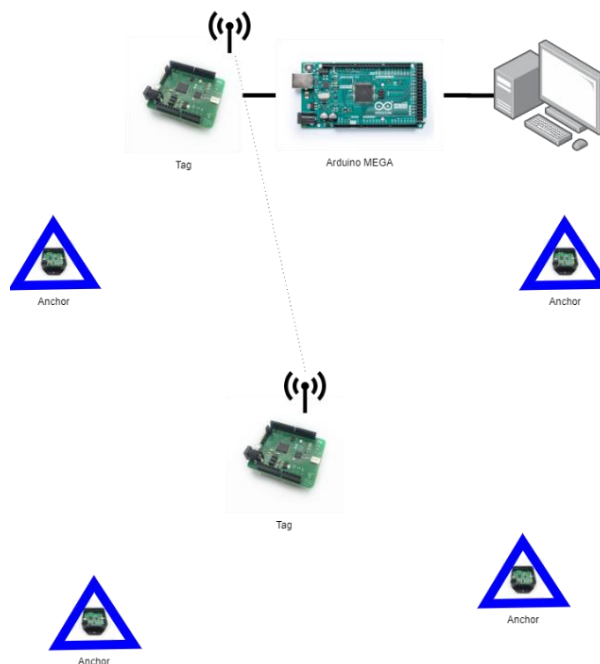

Figure 2: the UWB system setup. The Arduino and the Tag connected to it, are solely used for data transmission.
- Pozyx data is collected via Arduino MEGA (interface for Pozyx) which is connected to laptop (see: Figure 2) and datastream is logged with Coolterm